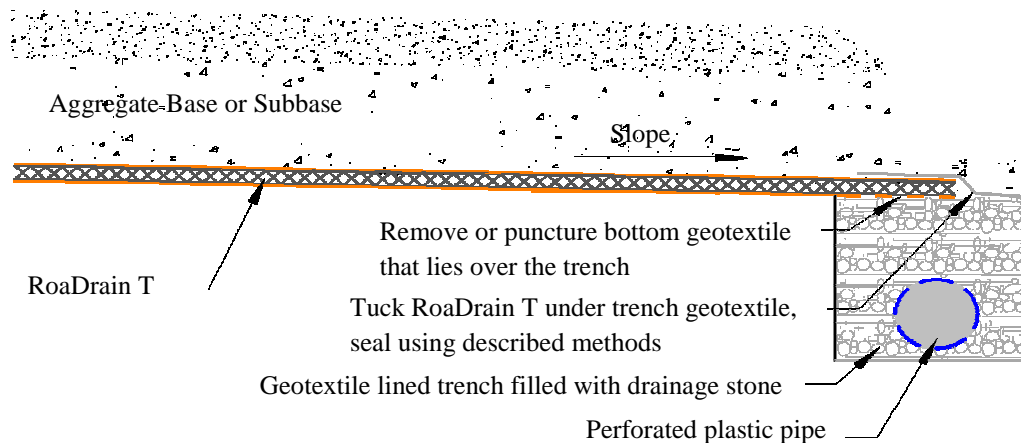

Figure 1. Typical Edge Drain Detail
3. The engineer shall verify that the surface of the area to receive the Roadrain-T is smooth and well compacted, with no voids or humps, and has the proper design grade that slopes towards the edge drain or other water collection structure as shown in figure 1. If no edge drain or water collection structure is present, one must be added.
- RoadDrain-T can be made to fit any width or length by cutting the material. Long cuts are best made with a contractors saw employing an abrasive (non-toothed) blade. Shorter cuts can be made with a sharp serrated blade utility knife. Cutting exposes the core edge. All exposed core edges (except the edge connected to the edge drain, see figure 1) shall be wrapped with a strip of geotextile and secured utilizing methods described above.